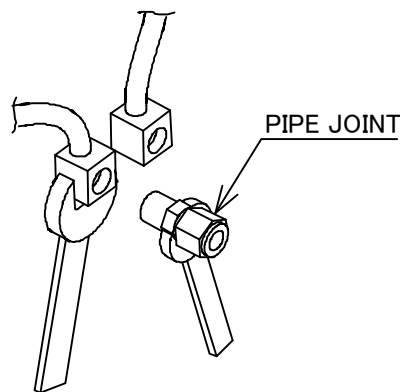

Fig. 5-10 Water Coolant Tubing Connections
- (2) When connecting the cooling water pipes, screw the pipe joint while also holding the nozzle of the pump with a spanner in order to avoid deforming the cooling water pipe, as illustrated in Fig. 5-10.